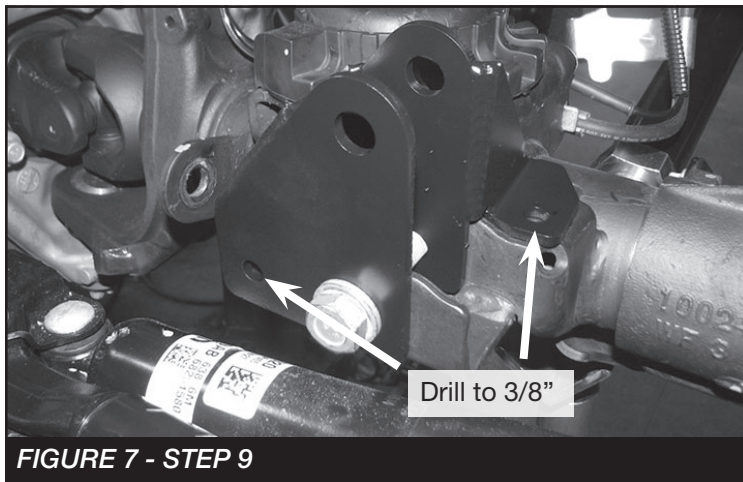

FIGURE 7 - STEP 9
9. Install FT50618 (Front track bar bracket) to the factory mount using stock bolt. **SEE FIGURE 7.** Mark the 2 holes to drill using the new bracket as a guide. Remove and drill the holes to 3/8"